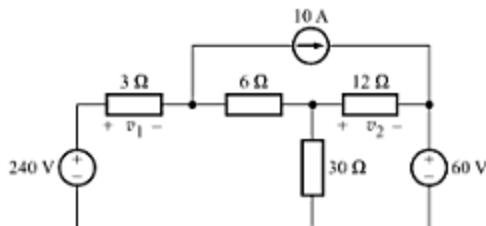

Fig. A-119
- A-86. For the circuit of Fig. A-119, (a) use nodal analysis to determine v_1 and v_2 , and (b) compute the power absorbed by the 6-Ω resistor.